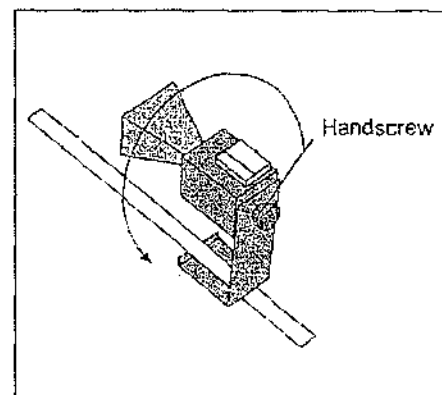

Figure 1.4 Polarization
- ⑦ Loosen the hand screw on the back of the Receiver and rotate the Receiver as shown in Figure 1.4. This varies the polarity of maximum detection. (Look into the receiver horn and notice the alignment of the detector diode.) Observe the meter readings through a full 360 degree rotation of the horn. A small mirror may be helpful to view the meter reading as the receiver is turned. At what polarity does the Receiver detect no signal?